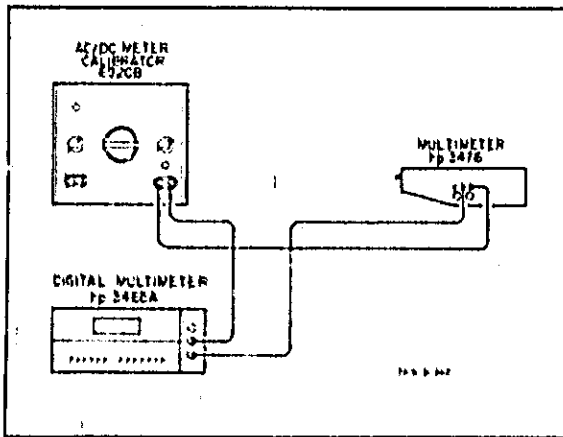

Figure 5-3. AC Ammeter Accuracy Test.
- Connect the equipment as shown in Figure 5-3.